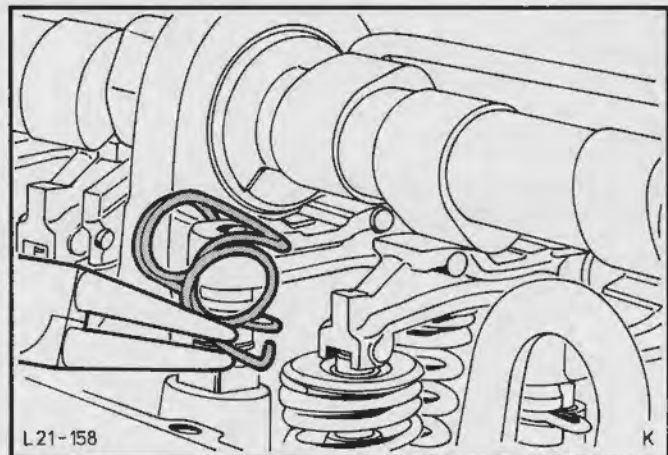

Fig.114. Hægt vippearmsfjedrene af
3. Hægt vippearmsfjedrene af, Fig.114.